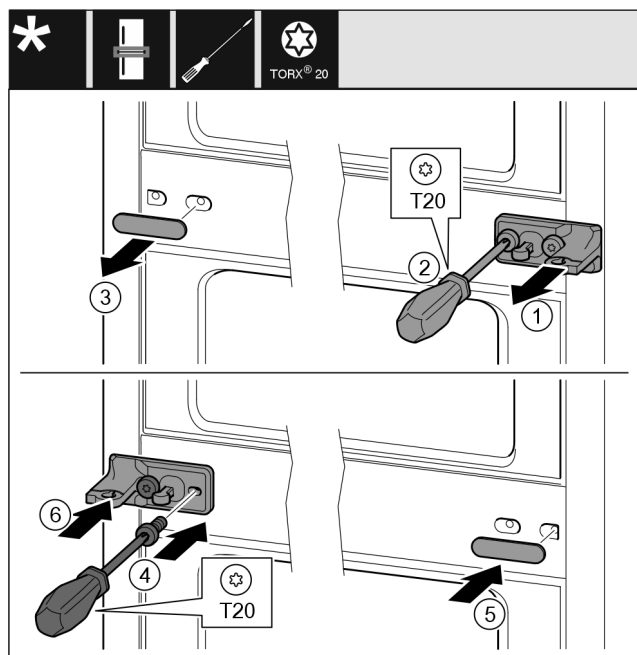

Fig. 21
- Take off the washer. Fig. 21 (1)
- Remove the screws with a T20 screwdriver. Fig. 21 (2)
- Take off the cover carefully. Fig. 21 (3)
- Screw the bearing bracket and the film rotated 180° firmly onto the other side. Fig. 21 (4)
- Attach the cover rotated 180° onto the other side. Fig. 21 (5)
- Push the washer on from the front. Fig. 21 (6)